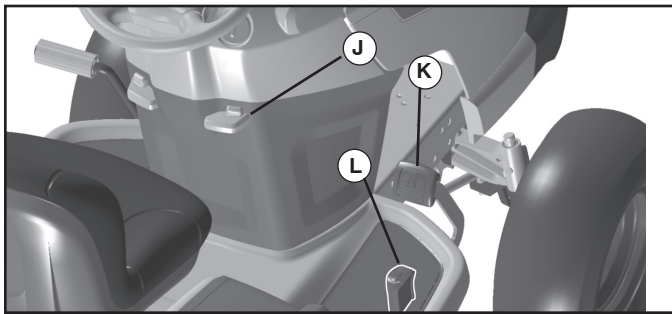

FIG. 7
## TO MOVE FORWARD AND BACKWARD (See Fig. 7)
- Slowly depress forward (K) or reverse (L) drive pedal to begin movement. Ground speed increases the further down the pedal is depressed.
## TO USE CRUISE CONTROL (J) (See Fig. 7)